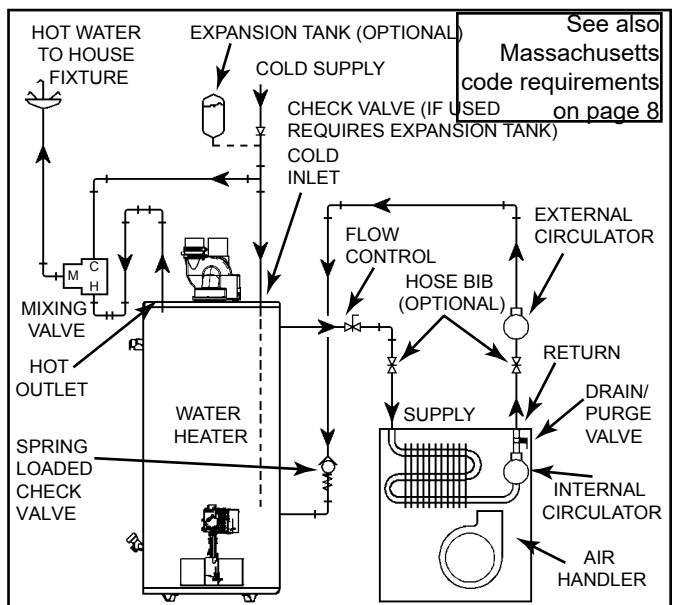
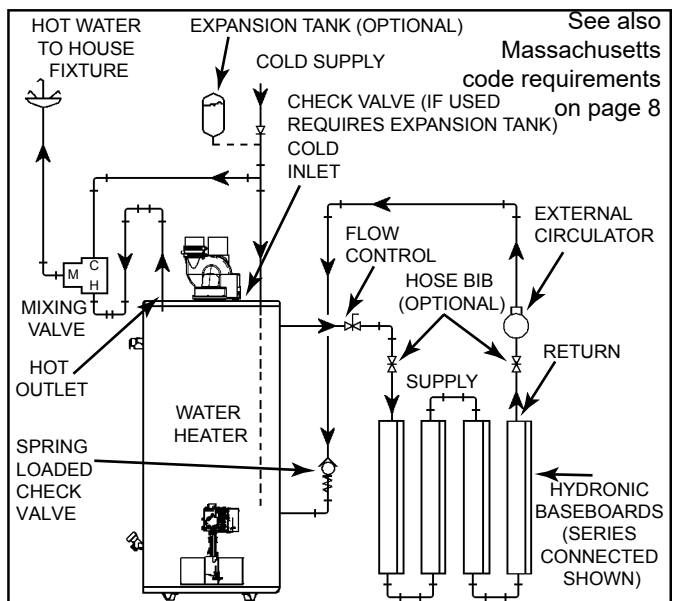

Figure 22.
Figure 23.
8. “Combo” Heating Systems require higher water temperatures than other applications. When the system is used to supply water for Combo Heating applications, a means, such as Thermostatic Mixing Valve, must be installed at each point-of-use, to temper the water in order to reduce scald hazard potential (see Figure 22 & Figure 23).
- A. A fan coil/air handler (Figure 22).
- B. A hydronic baseboard (finned tube) loop/In floor heating (Figure 23).